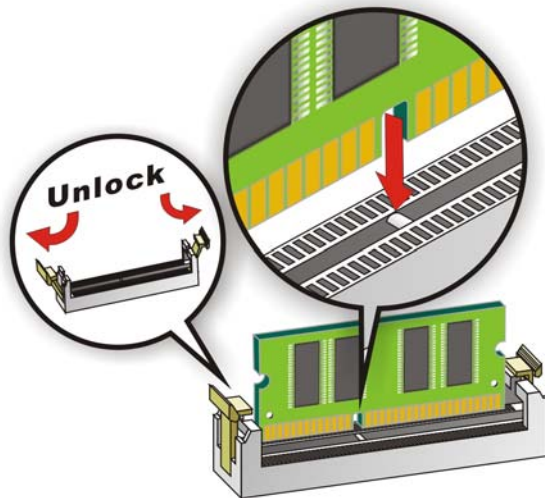

Figure 4-6: SO-DIMM Installation
To install a SO-DIMM, please follow the steps below and refer to **Figure 4-6**.
Step 1: Open the SO-DIMM socket handles. Open the two handles outwards as far as they can. See Figure 4-6.
Step 2: **Align the SO-DIMM with the socket.** Align the DIMM so the notch on the memory lines up with the notch on the memory socket. See **Figure 4-6**.
Step 3: **Insert the SO-DIMM.** Once aligned, press down until the SO-DIMM is properly seated. Clip the two handles into place. See **Figure 4-6**.